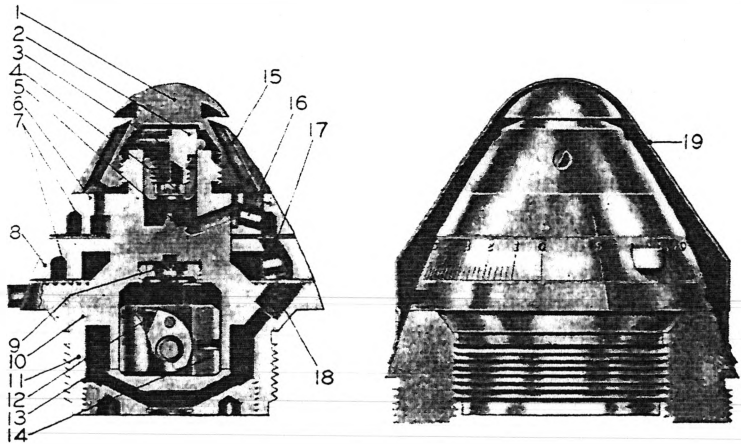

FIG. 13.—21-second combination fuze, M1907M
(2) The fuze is always assembled to the shrapnel for shipment. It is protected by a waterproof cover which is removed and thrown away when the fuze is set for time of flight.
(3) This fuze does not have a detonating element, as it is designed to ignite the base charge of black powder in the shrapnel. If the time element of the fuze fails to function, or the setting is too long, the percussion element will cause the shrapnel to function upon impact, the term “combination” thus being derived from this double action feature. Figure 13 shows a view of the fuze with the waterproof cover (19) in place and the fuze set for 0 time of burning. It also shows a sectional view of the fuze set at 0 with the names of the principal parts.
*b. Canister action.*—(1) When the setting is at 01 for canister effect, the action is as follows: When the gun is fired, the concussion plunger (2) will slip through the resistance ring (3), due to inertia or the setback action in the projectile. The concussion primer (4), which is held in the concussion plunger, is thus fired by the firing pin (5). The flame from this primer (4) passes through a hole in the body and ignites the powder pellet (16), which is in the upper time-train ring (6). The flame from this pellet (16) is transmitted to the ignition pellet (17), which is located in the lower or